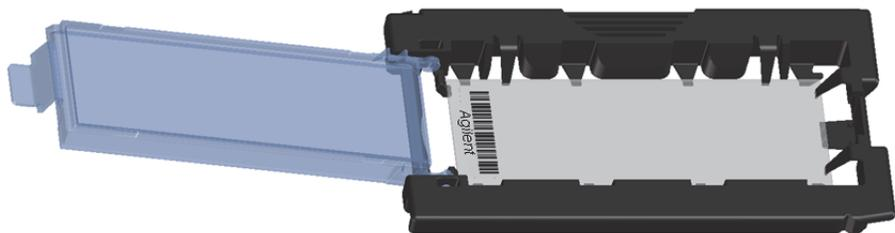

Figure 20. Slide inserted in slide holder – cover open
- c** Gently lower the slide into the slide holder. See **Figure 20**.